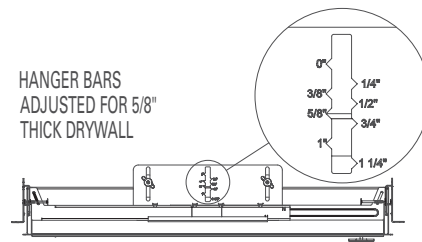

FIGURE 4
6. Adjust the fixture to accommodate the thickness of drywall, plaster, or ceiling tile to be used. The notches and markings on the hanger bar holders correspond to the material thickness (See Figure 4).